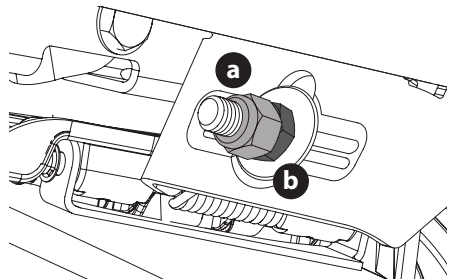

Fig. 39
5. To **raise** the front of the deck, remove the end cap, loosen the outer jam nut (a) then tighten (thread inward) the inner nut (b) against the front hanger bracket (Fig. 39). When proper adjustment is achieved, re-tighten the outer jam nut (a) to 57 ft-lbs (77 N-m) and replace the end cap.
- To **lower** the front of the deck, remove the end cap, loosen the outer jam nut (a) then loosen (thread outward) the inner nut (b), away from the front hanger bracket (Fig. 39 on page 29). When proper adjustment is achieved, re-tighten the outer jam nut (a) to 57 ft-lbs (77 N-m) and replace the end cap.